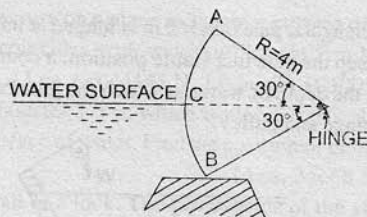

Fig. 3.60
21. Find the horizontal and vertical components of the water pressure exerted on a tainter gate of radius 4 m as shown in Fig. 3.60. Consider width of the gate unity.